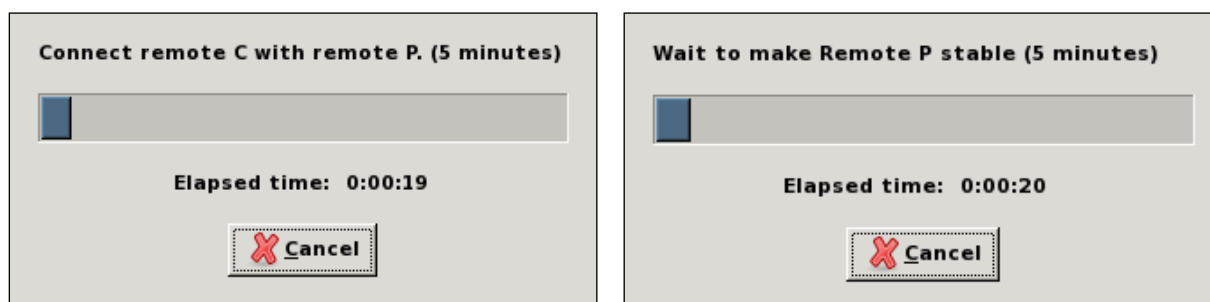

Figure 81 The two Depolarize dialogs
- Follow the instruction on the first dialog (Figure 81)